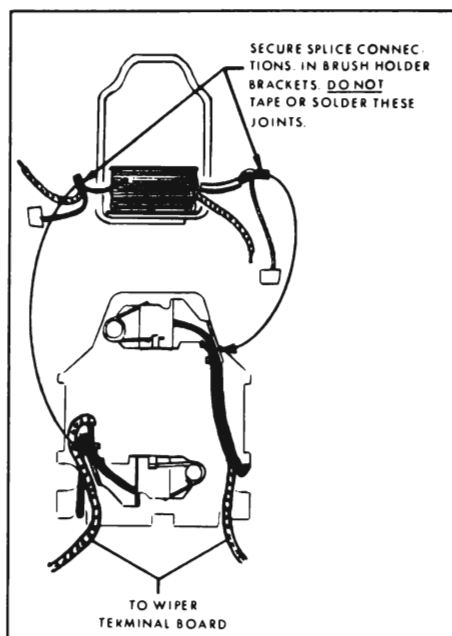

Figure 10-90—Motor Wiring
(2) Disassemble motor section and check all splice connections (Figure 10-90).
(4) Brush pigtail connections at splice joints (Figure 10-90).